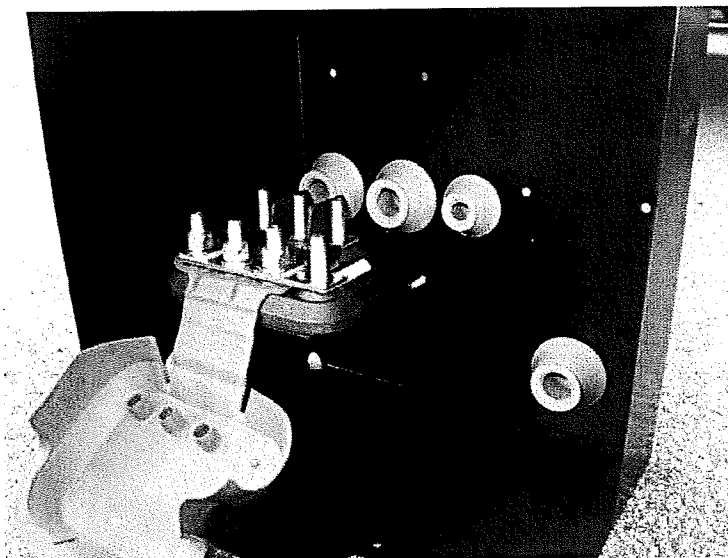

Figure 6
13. Move the center mega fuse to the third position on the MFJB, TBB 148338. Attach the MFJB to its Mounting Bracket, TBB 168248 using two (2) 5/16-18 Toothed Nuts, TBB 69004003 and torque to 8-10 ft-lbs. Install the assembly in the enclosure using two (2) $\frac{1}{4}$ -20 Thread Cutting Bolts, TBB 61370975. **Figure 6**